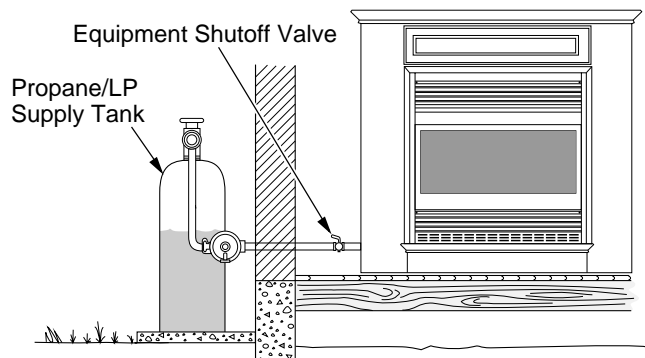

Figure 28 - Checking Gas Joints for Propane/LP Gas (Shown with Optional Mantel)
3. Check all joints from gas meter for natural or propane/LP supply to equipment shutoff valve (see Figures 28 and 29). Apply a noncorrosive leak detection fluid to gas joints. Bubbles forming show a leak.